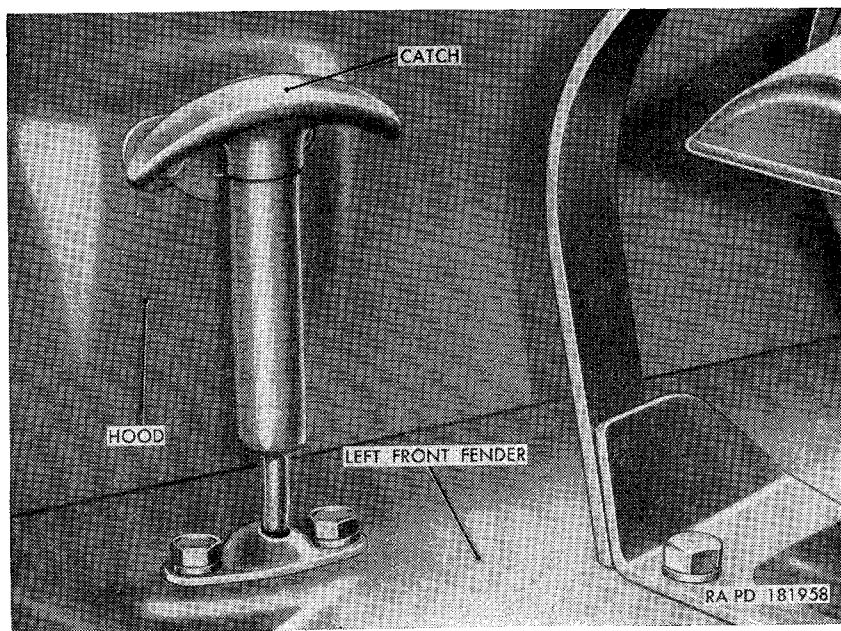
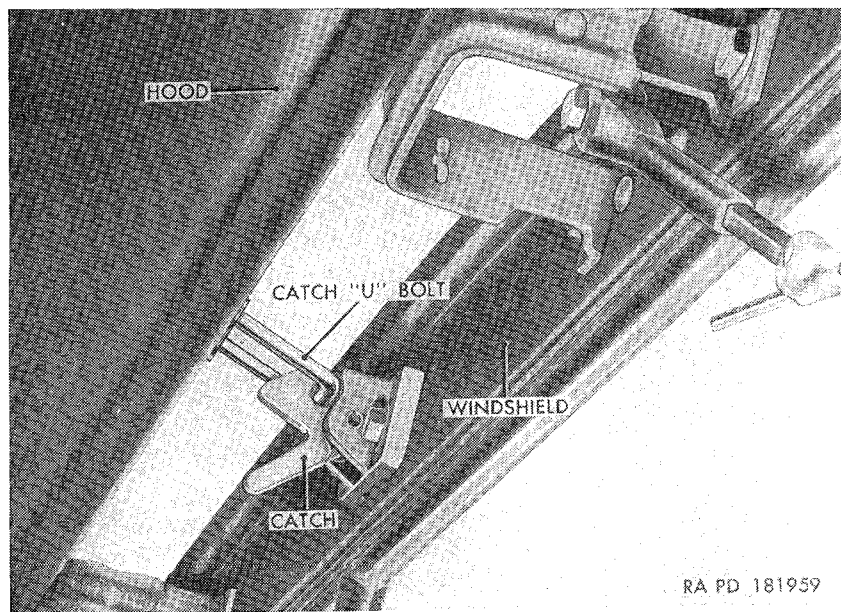

Figure 176. Hood catch engaged.
Figure 177. Hood lock catch engaged at top of windshield.
*a. Raising.* Unhook the hood catch (fig. 176) from the catch bracket on each side of the hood assembly. Raise the hood up and rearward until it rests against the top of the windshield assembly. Lock the hood in raised position by engaging the catch U-bolt on the hood in the lock catch at top of the windshield (fig. 177).
*b. Lowering.* Disengage the catch U-bolt from the lock catch (fig. 177) at the top of the windshield. Lower hood until its front rests on the radiator guard. Secure hood in closed position by hooking a hood catch (fig. 176) onto a catch bracket on each side of the hood.
*c. Removal.* Unhook the hood catch from the catch bracket on each side of the hood (fig. 176). Raise hood until it is almost up against windshield, line up the flat sides on the hinge pins with the openings in the hood hinge assemblies and lift the hood to disengage
*d. Installation.* Position the hood in an upright position over the body cowl. Aline the flat sides of the hinge pins with the openings in the hood hinges and slip the pins into the hinges. Lower hood to the closed position. Secure hood in closed position by hooking a hood catch (fig. 176) onto a catch bracket on each side of the hood.